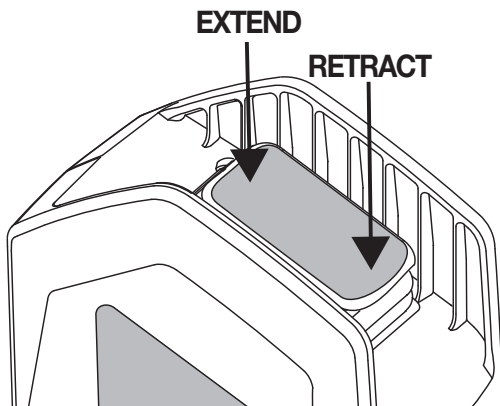

Figure 8
7. Double click **Extend** on toggle switch to activate remote operation. (Fig. 8) Test the connection by double clicking and holding the toggle switch. At the end of a cutting cycle the blade will automatically open.